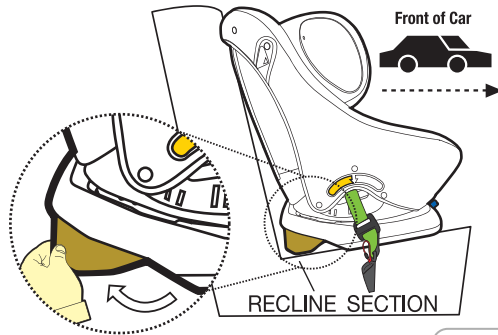

Figure 1
Step 2: Swing the Recline Section rearward (refer Figure 1).